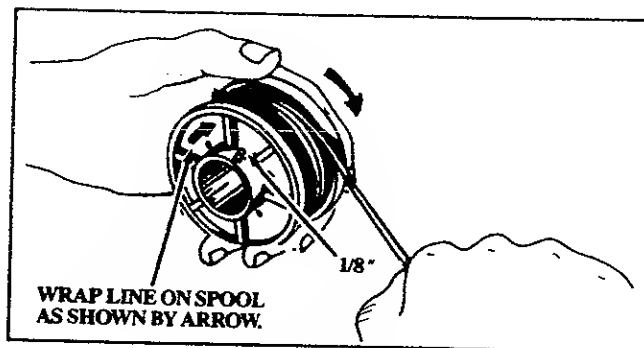

Figure 21
3). Insert 1/16 to 1/8 inch of the end of the Line through the hole in the inner rim of the Spool. Figure 21. Allow no more than 1/8 inch of Line to extend beyond the rim to avoid interference with the tapping action.
4). Wrap the Line firmly and evenly onto Spool in a clockwise direction as shown by arrow on Spool. Figure 21.